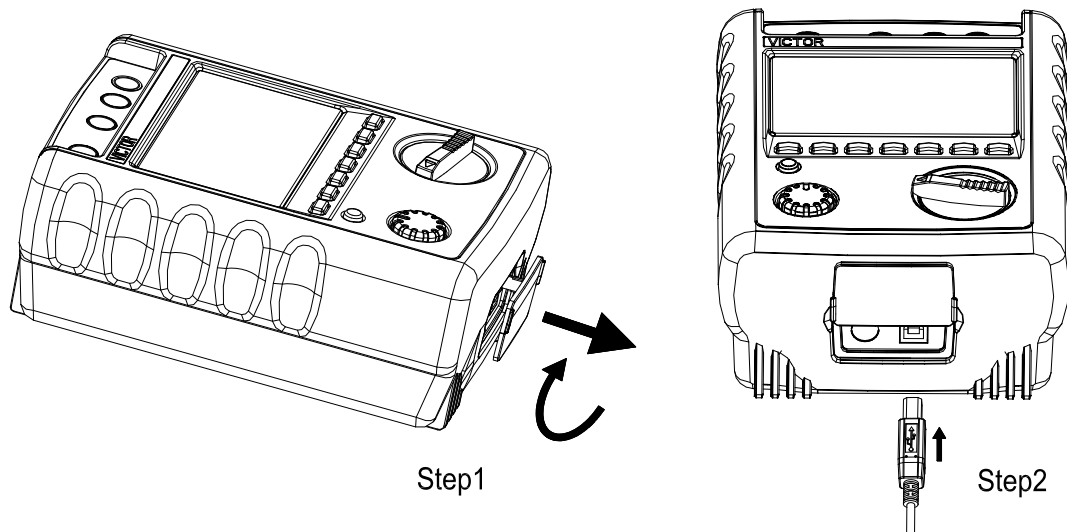

Figure 8
- Step 1: Push aside the movable valve on the side of the instrument, and plug one end of the USB to into the USB jack of the instrument, and connect the other end to into the USB port of the computer (see Figure 8).